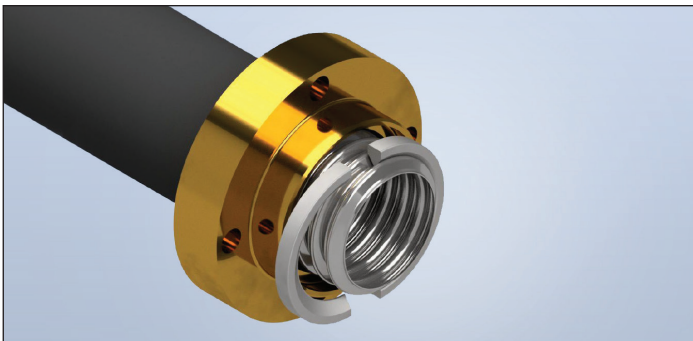

Figure: 1-11
5. Slide the Back Flange over the tubing until it bottoms out against the jacket. Place two Split Rings into the first corrugation next to the tube cut (Figure 1-11).